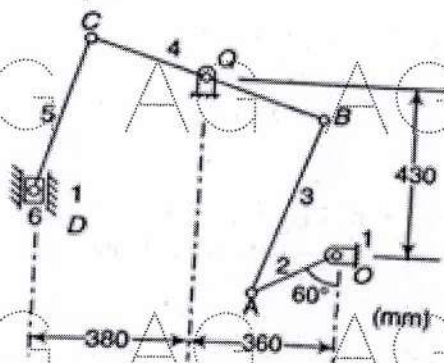

Figure: 2
4. Figure 2 shows a six link mechanism. The dimensions of the links are $OA=220$ mm, $AB=485$ mm, $BQ=310$ mm, $BC=590$ mm and $CD=400$ mm. For the position when the crank OA makes an angle of 60° with vertical, find the velocity of the slider D . The crank OA rotates clockwise at 150rpm. [15]